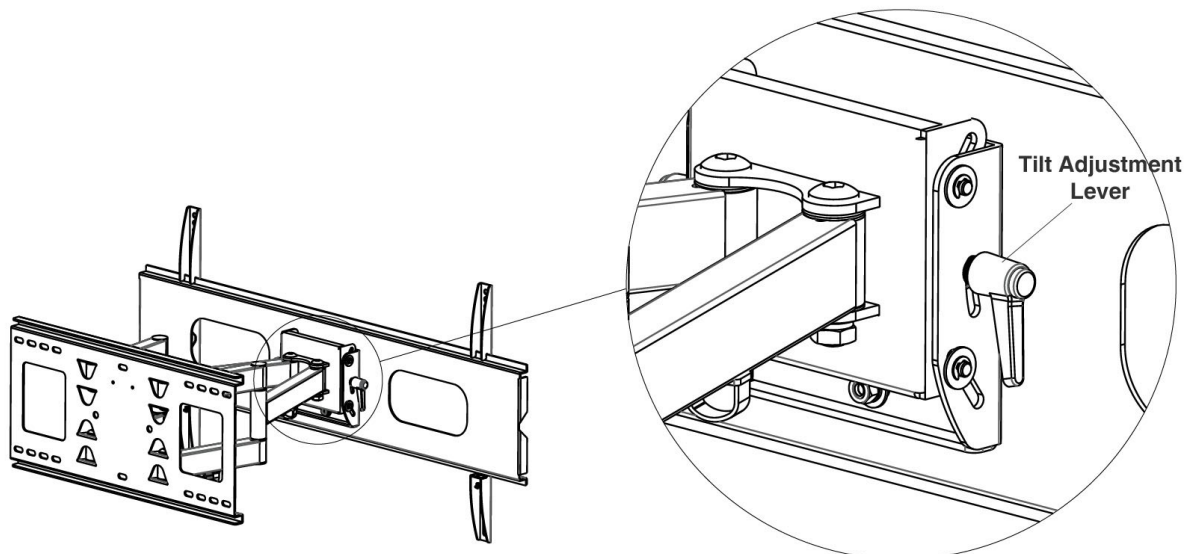

Figure 9
1. Loosen the tilt adjustment levers (on each side), tilt the TV to the optimal viewing angle, then tighten the levers to secure the tilt angle. **Note:** The tilt adjustment levers are designed with ratchet mechanism. To adjust the lever's position pull it out and rotate left or right, release the lever and rotate to loosen or tighten. Repeat several times if needed. See Figure 9.